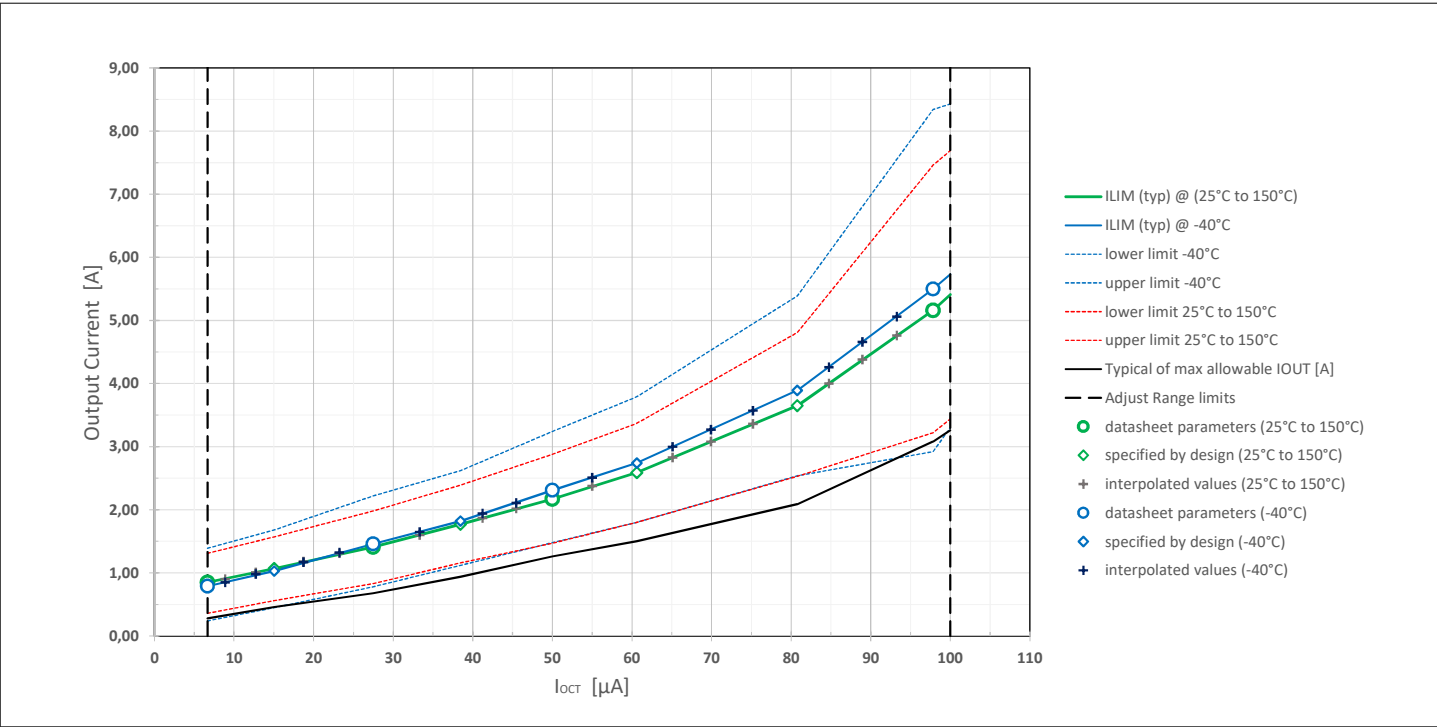

Figure 27 Current limitation threshold $I_{LIM(th,adj)}$ as function of I_{OCT} and related limitation values for different temperatures
Table 11 below indicates which resistor value R_{OCT} needs to be soldered between OCT-pin and device GND to obtain a desired current limitation threshold $I_{LIM(th,adj)}$. The adjusted current limitation threshold is defined for ambient temperature ($T_j = 25^\circ\text{C}$) and hence, these values coincide with the typical values of the current limit at 25°C . **Table 11** provides an overview of the related minimum and maximum values of the current limit. The column “Typical of maximum allowable I_{OUT} [A]” provides information about the required distance of the output current to the adjusted current limit setting in order to avoid unwanted activation of the current limitation circuit during normal operation. This clearance needs to be respected for the nominal load current of a given application and represents an upper limit for the allowable nominal load current³⁾. As the typical values of a selected current limit do not vary significantly from $T_j = 25^\circ\text{C}$ up to $T_j = 150^\circ\text{C}$ for most of the I_{OCT} - settings the given maximum and minimum values of the current limit listed in **Table 11** hold true for the temperature range $25^\circ\text{C} \leq T_j \leq 150^\circ\text{C}$. Deviations that have to be expected for the typical values of the current limit at 150°C can be seen in **Figure 27**.
Figure 27 moreover illustrates how the current limitation values will shift for low temperatures. **Table 11** provides typical values for the current limitation for the extreme case of $T_j = -40^\circ\text{C}$ and an overview of corresponding minimum and maximum values for the current limitations.
- 1) $I_{LIM(th,adj)}$ values coincide with typical values of the current limit I_{LIM} @ 25°C . Typical values for I_{LIM} @ 150°C may show deviation from $I_{LIM(th,adj)}$; see Figure 27 for further details